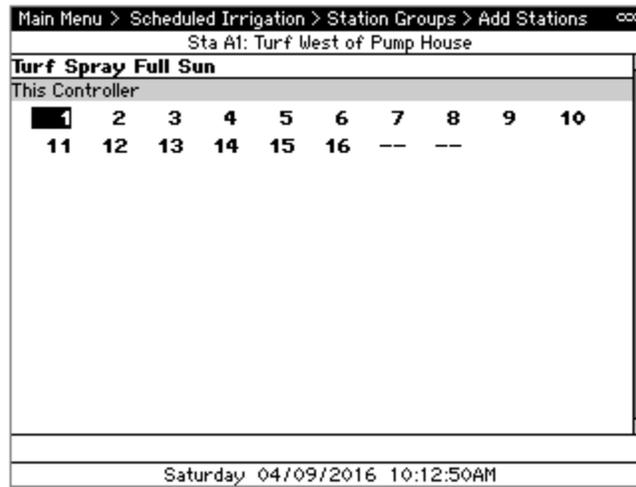

Figure 6 - Add Stations screen
- To add the stations that share these characteristics to the Station Group, navigate to and select **Add Stations**. The Add Stations screen displays (Figure 6).